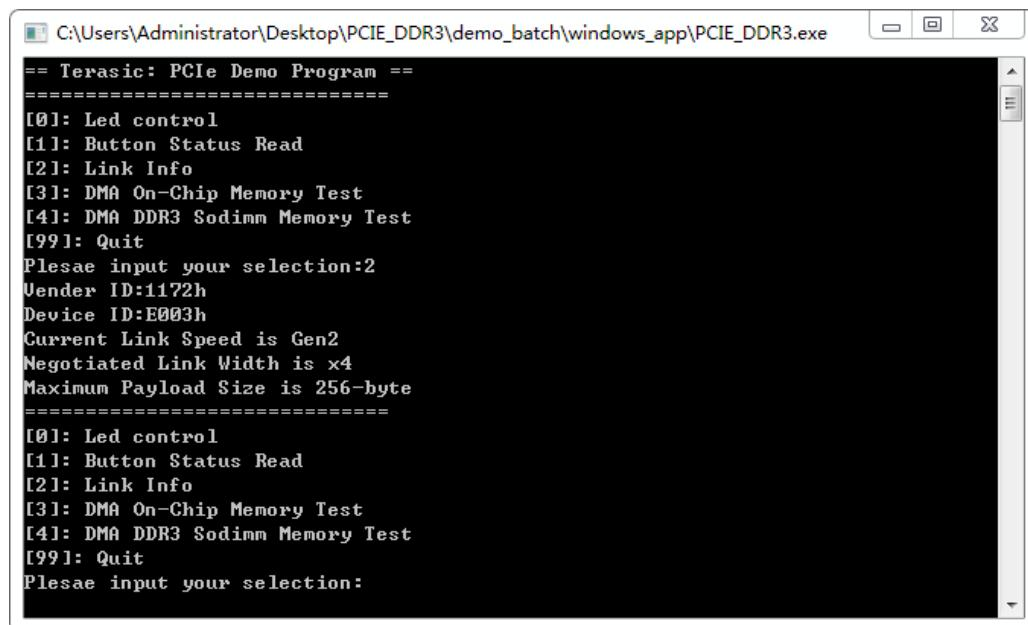

Figure 7-18 Screenshot of Link Info
8. Type 2 followed by the ENTER key to select Link Info item. The PCIe link information will be shown as in **Figure 7-18**. Gen2 link speed and x4 link width are expected.